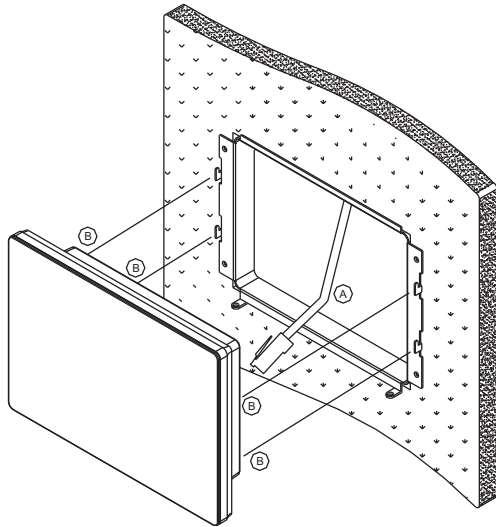
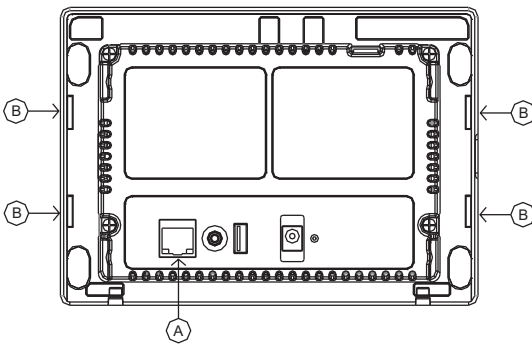

Figure 4
Figure 5
- a. Insert the 8-position modular cable (marked "A" in Figure 4) into the RJ-45 connector (LAN/POE) on the touchscreen (marked "A" in Figure 5).
- b. Align the tabs on the mounting bracket (marked "B" in Figure 4) with the slots on the touchscreen (marked "B" in Figure 5). Attach the touchscreen to the mounting bracket by inserting the tabs on the bracket into the mating slots on the touchscreen and then gently pushing downward to lock into place.